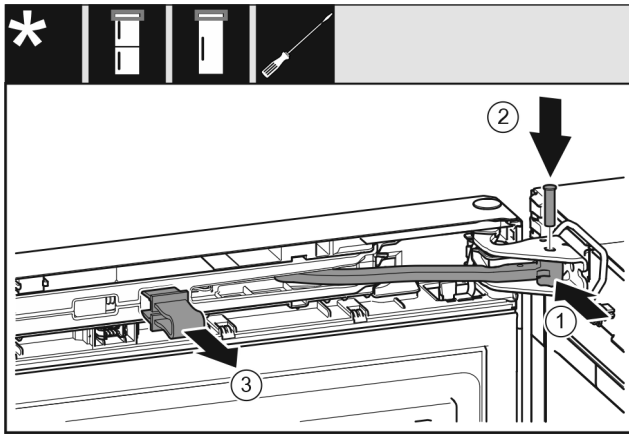

Fig. 23
- ▶ Turn the joint Fig. 23 (1) in the bearing block.
- ▶ Insert the bolt Fig. 23 (2) into the bearing bracket and joint. Ensure that the latching cam is in the groove properly.
- ▶ Remove the safeguard Fig. 23 (3).